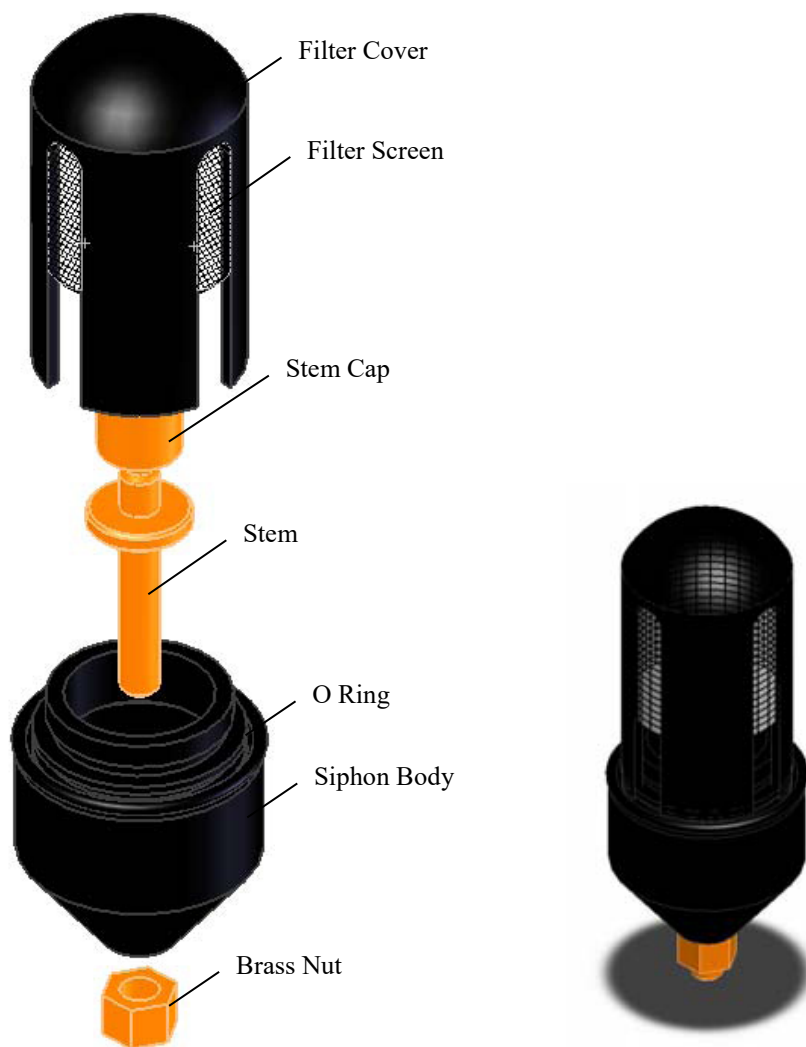

FIGURE 9-3. Filter/Siphon Assembly
- Catch filter (see FIGURE 9-3)
- Siphon (see FIGURE 9-3)
3. Disassemble the filter/siphon assembly by doing the following (see FIGURE 9-3):
1. Screw cap on stem, finger tighten only (see FIGURE 9-3).
2. Push stem into siphon body (see FIGURE 9-3).
3. Replace nut and tighten (see FIGURE 9-3).